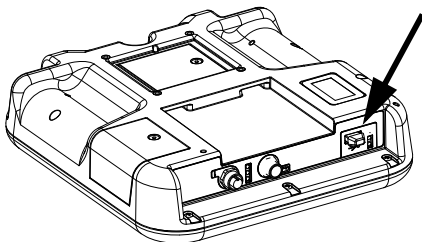

FIG. 60: ADM USB Port
1. Insert USB flash drive into USB port. See FIG. 60.